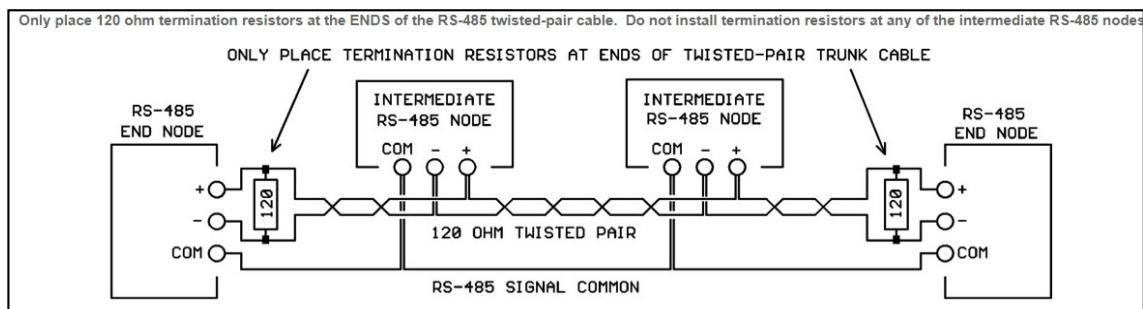

Figure 5: Termination Resistor Connection
**Note:** To maintain effective RS485 communication and prevent signal reflections, it's crucial to terminate the RS485 line with 120 Ohm resistors at both ends. These resistors ensure that the signal remains clear and reliable. Do not install termination resistors at any intermediate RS485 nodes. For connecting the termination resistors, refer to Fig 5.
To maintain effective RS485 communication and prevent signal reflections, it's crucial to terminate the RS485 line with 120 Ohm resistors at both ends. Do not install termination resistors at any intermediate RS485 nodes. These resistors ensure that the signal remains clear and reliable. For connecting the termination resistors, refer to Fig 5.